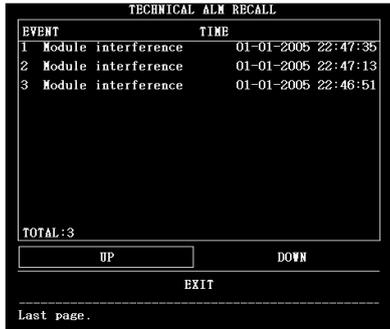

Figure 3.20 Technical Alarm Recall
- 3) Revolving the knob key to enter **Technical Alarm Recall**,Technical alarms such as module communication errors can be reviewed ,the diagram is showed as **Figure 3.20**